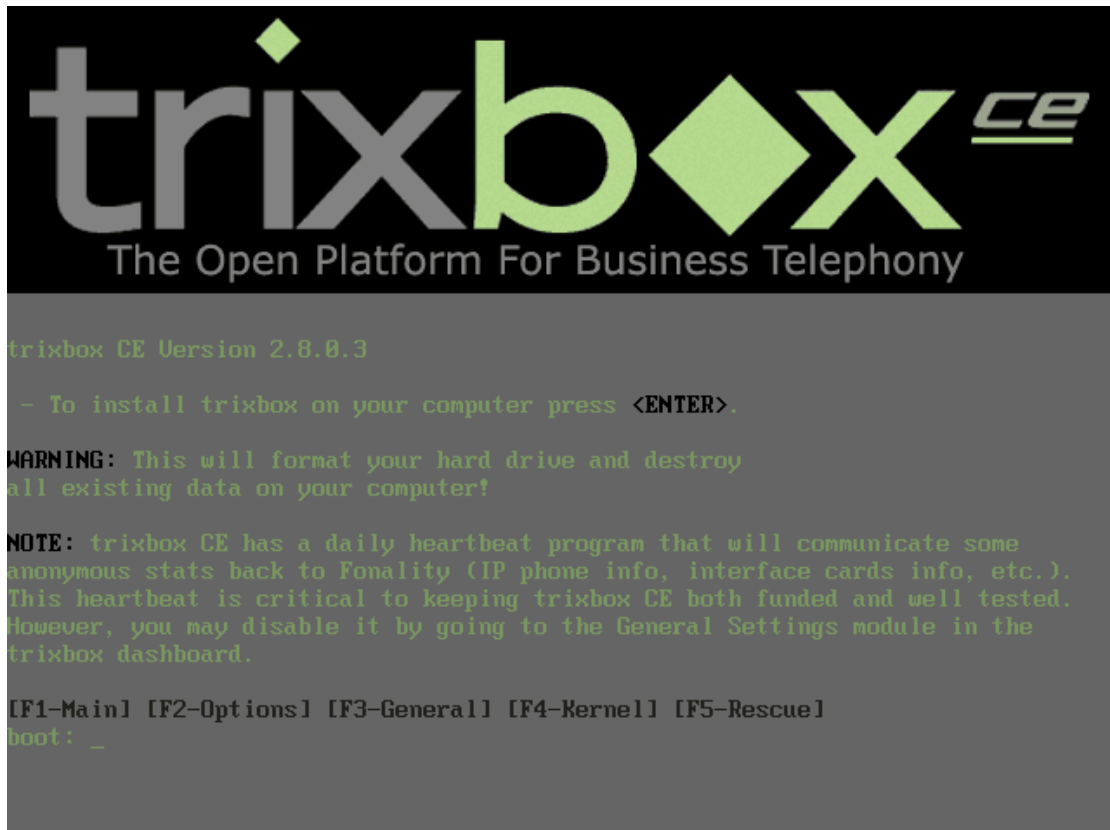

Figure 1
1. The system will go into the CD guide after the PC being started. Then the following interface will be shown on the screen. See Figure 1. Press Enter directly to select the default installation mode.